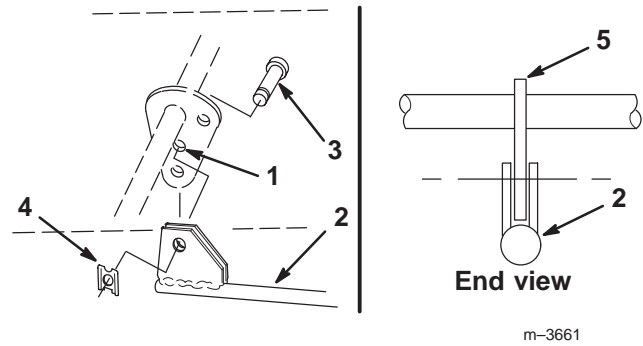

Figure 17
9. From beneath the tractor, connect the snowthrower rod assembly to the middle hole in the attachment lift plate (lift plate goes between the rod assembly plates) with the 1/2" x 1" (25 mm) clevis pin and clip (Fig. 17).